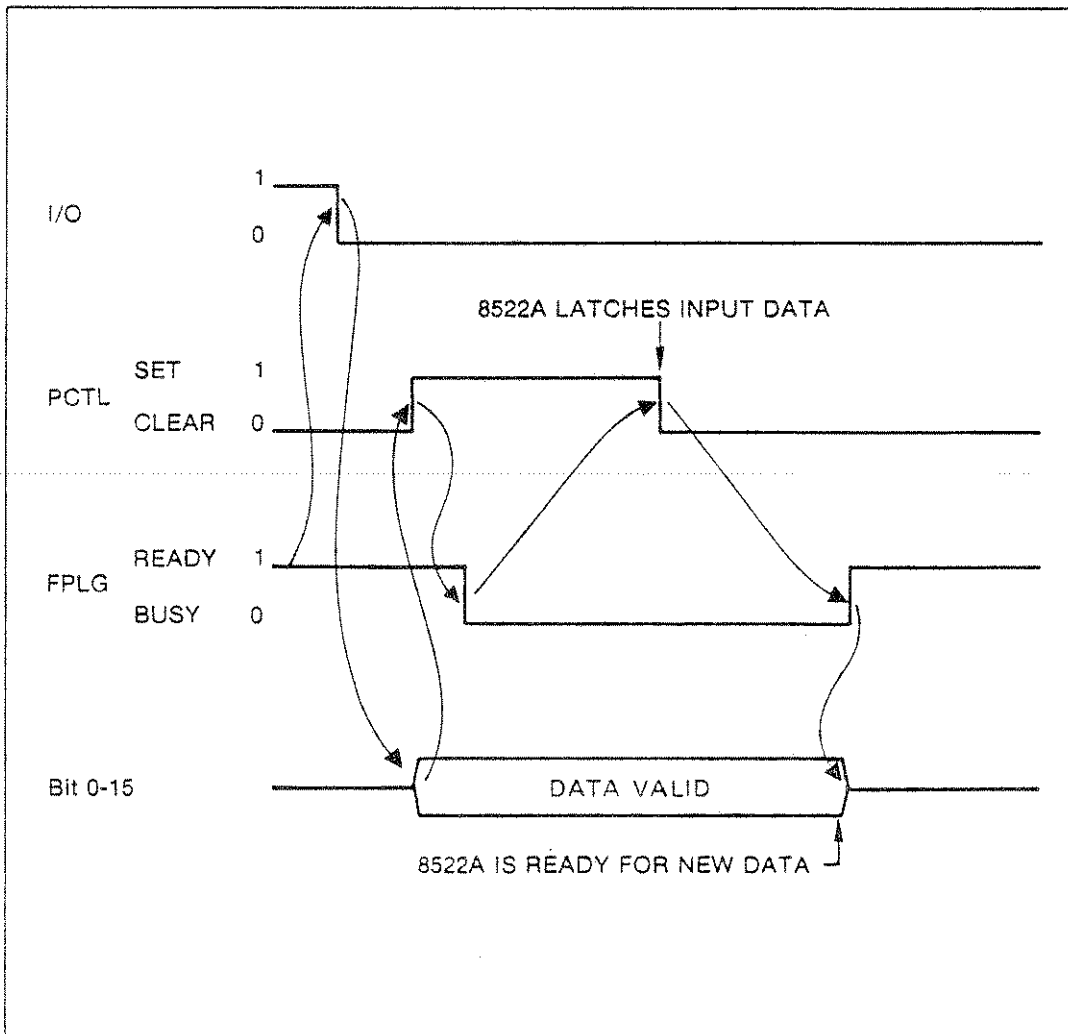

Figure 8-5. Three-wire Data to 8522A
- I. Transfer data from remote controller to 8522A, i.e., commands. See Figure 8-5.